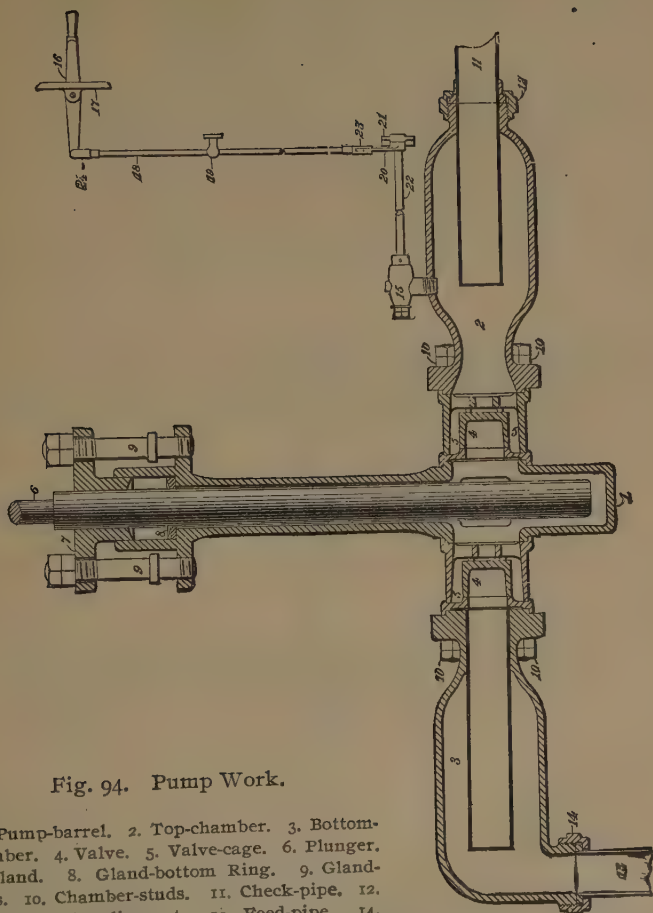

Fig. 94. Pump Work.
pipe from the tank enters, and which contains a central pipe surrounded by an annular space serving as an air-chamber. Above the barrel and at the same end with the suction-chamber is a discharge-chamber through which projects a central discharge-pipe, leaving around it an annular air-chamber. Between suction-chamber and barrel is an upward-opening valve; between discharge-chamber and barrel is another upward-opening discharge-valve or pressure-valve; each of these being an inverted cylindrical brass cup resting water-tight on a brass seat, and working in a cage guide. When the plunger is withdrawn from the barrel there is formed (if the joints are tight) a partial vacuum, which is filled (if the plunger does not return too quickly) by water from the tank, which rises through the suction-valve. When the plunger again enters the barrel this water is discharged through the pressure-valve into the boiler—or at least into the air-chamber and pipe between the pressure-valve and the boiler—displacing other water that is in the same line. At the end of the feed-pipe furthest from the pump is another upward-opening valve called a check-valve, serving as a check or extra precaution lest the pressure-valve should not be tight, or should be injured, or held from its seat by a chip or other piece of foreign matter. The check-valve may be either inside or outside the boiler. The horizontal pump-barrel has attached to it a top chamber 2 (see Fig. 94), and a bottom chamber 3. The valves 4 above and below it are practically the same, and play in cages 5 which may be readily detached from the pump-barrel and the chamber by running the nuts off the chamber-studs 10. The plunger 6 plays through the gland 7 which is inserted in the stuffing-box, and is held in by gland-studs 9.
A. By a feed-cock in the suction-pipe, regulating the amount that can pass to the pump (see Figs. 94 and 95) ; also by the valves between tank and tender-hose.